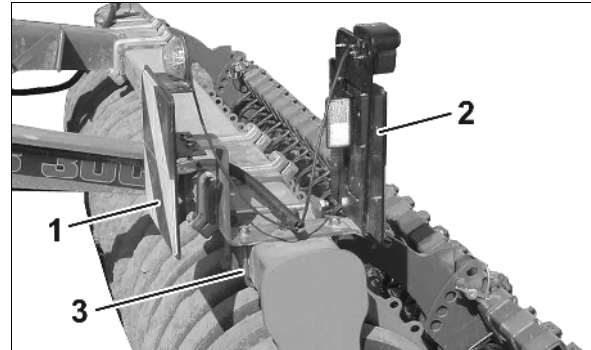

Fig. 15
- o Slacken clamping brace and dismount the front (Fig. 15/1) and rear (Fig. 15/2) lights.